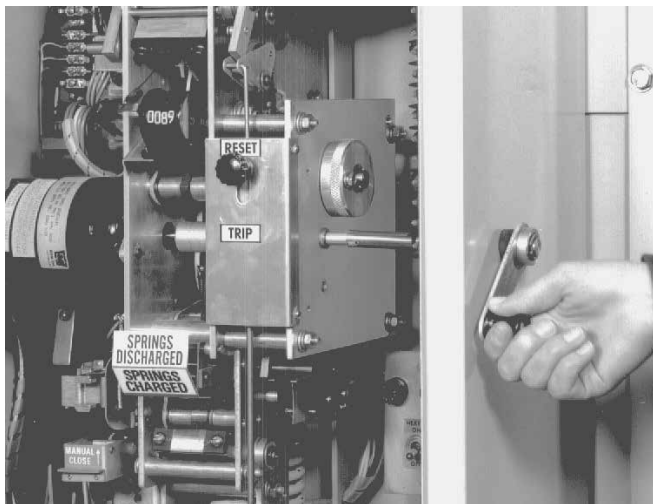

Figure 6. Manually charging closing springs
- Insert manual crank shaft through the cabinet wall and onto the shaft protruding from the mechanism (Figure 6).